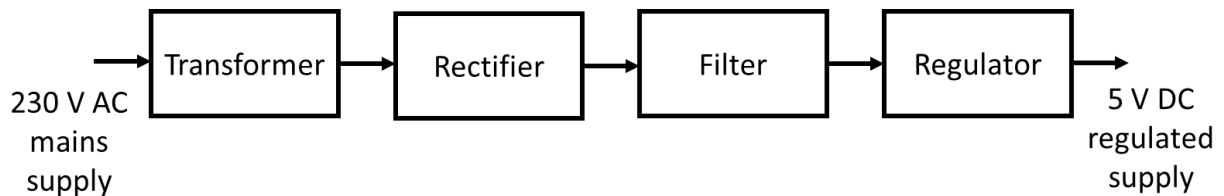

Figure 1 – Block diagram of system
A block diagram, schematic diagram and specification detailing the power conversion system's layout and expected operation are shown in Figures 1 and 2 below.
- access to relevant information sources (digital or hard copy), including figures 1 and 2, wiring diagrams, component datasheets, manufacturers specification, manufacturers recommended procedures, operation and maintenance manuals, technical manuals and circuit diagrams, technical drawings, schematics
- access to relevant information sources (digital or hard copy), including Figures 1 and 2, wiring diagrams, component datasheets, manufacturers specification, manufacturers recommended procedures, operation and maintenance manuals, technical manuals and circuit diagrams, technical drawings, schematics
- access to relevant information sources (digital or hard copy), including Figures 1 and 2, wiring diagrams, component datasheets, manufacturers specification, manufacturers recommended procedures, operation and maintenance manuals, technical manuals and circuit diagrams/schematics